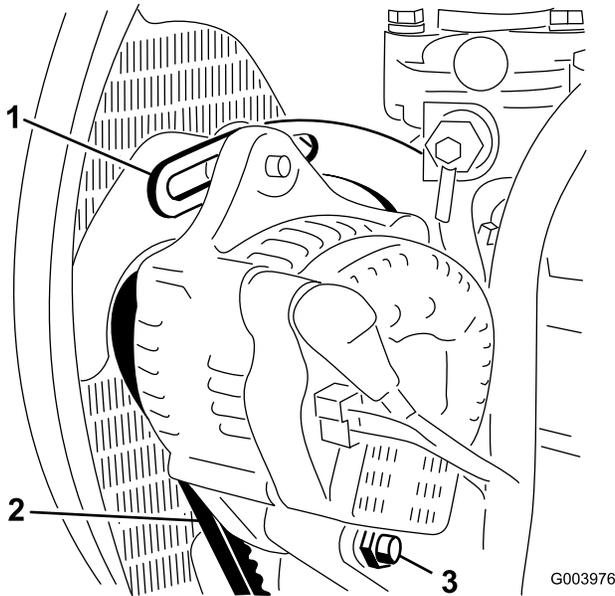

Figure 70
2. Check the tension of the alternator belt by depressing it (Figure 70) midway between the alternator and the crankshaft pulleys with 10 kg (22 lb) of force.
3. Loosen the bolt securing the brace to the engine (Figure 70), the bolt securing the alternator to the brace and the pivot bolt.